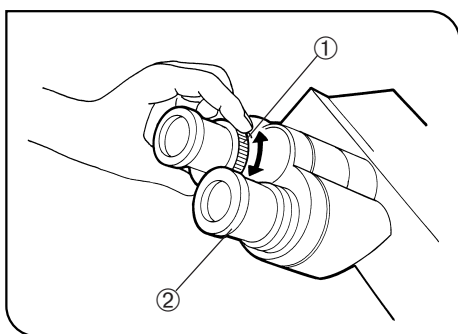

Fig. 25
### 2 Adjusting the Diopter (Figs 25 & 26)
2. Looking through the eyepiece with the diopter adjustment ring ①, turn it to focus on the specimen. (Fig. 25)
1. Looking through the right eyepiece with your right eye, turn the top of the eyepiece ② until a clearly defined double crossline can be seen in the field of view. (Figs. 25 & 26)
3. Looking through the left eyepiece with your left eye, turn the diopter adjustment ring ① to focus on the specimen.